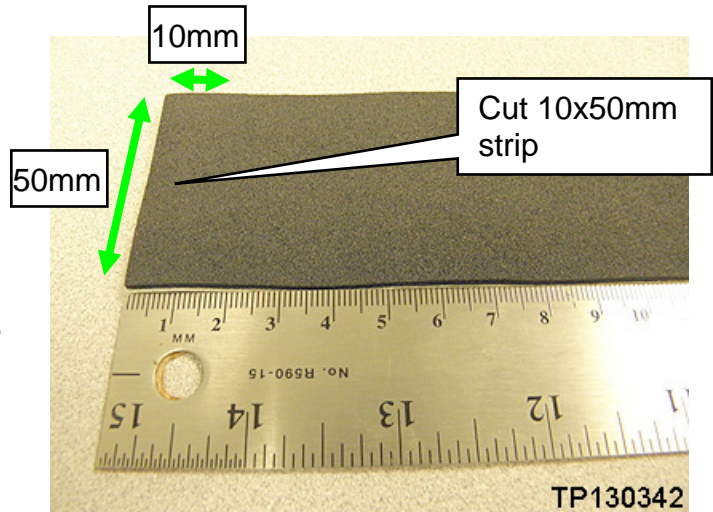

Figure 1
2. Cut 1 piece of foam tape for each C-pillar finisher (total of 2) to 10x50mm (Figure 1).